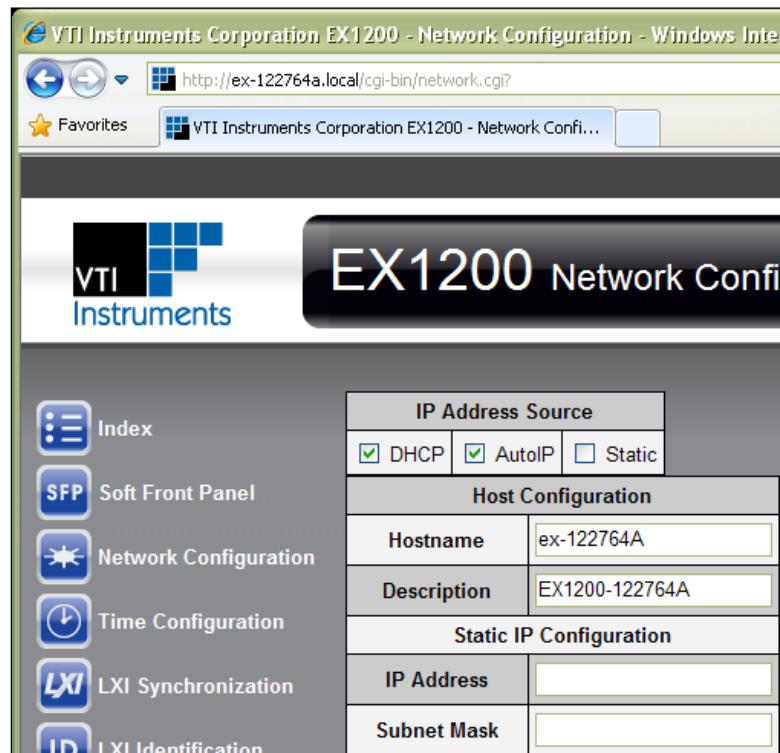

FIGURE 2-17: EX1200A SET TO USE AUTO IP
- 5) Select **DHCP** and **AutoIP** in the **IP Address Source** field and ensure that **Static IP** is not selected. Figure 2-17 shows the proper configuration. Click the **Submit** button to save all changes.